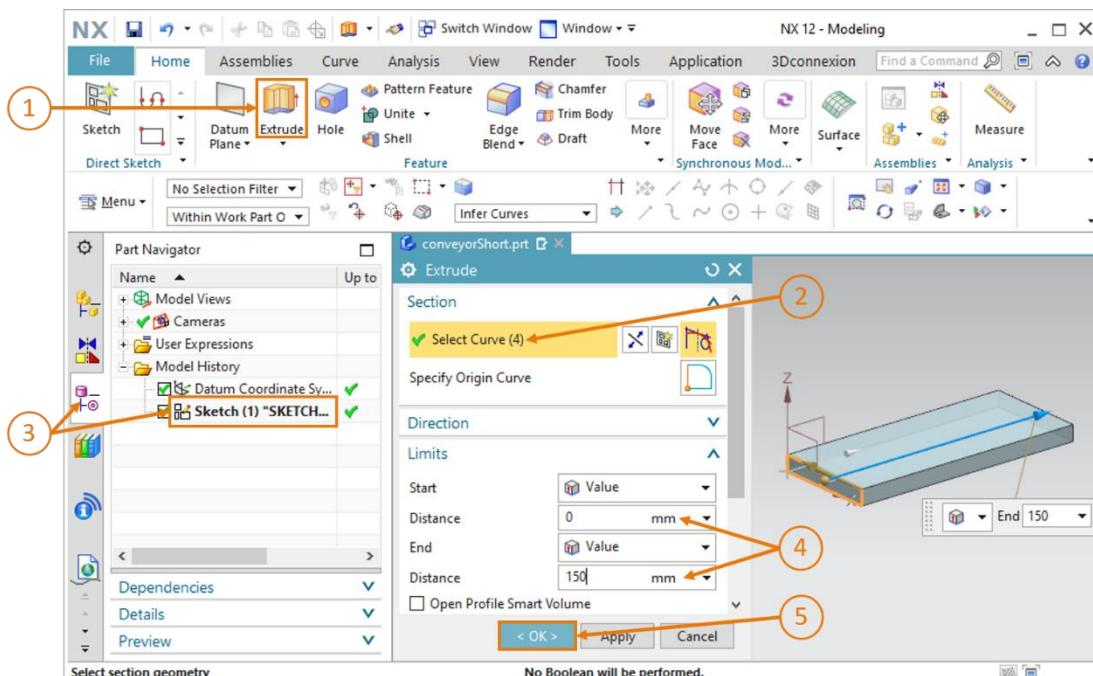

Figure 21: Extruding a rectangle into a cuboid
- The conveyor belt is to have a length of **150 mm**. You can now use the "Extrude" function, as explained previously in Chapter 7.1.1, to create a cuboid from the rectangle (see Figure 21).